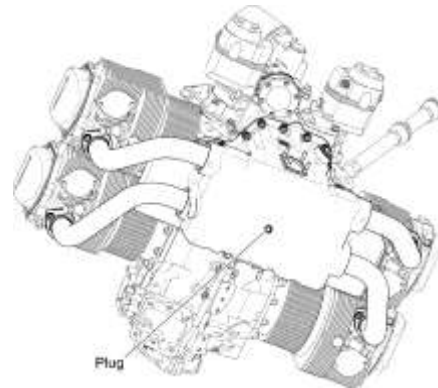

Figure 1
7. Remove the plug in the induction system (Figure 1).